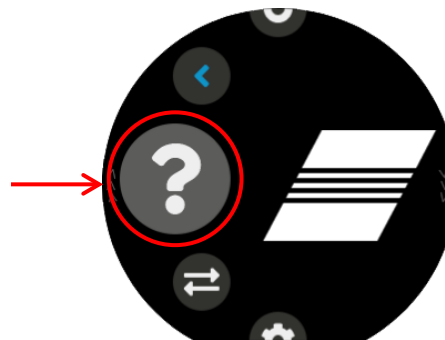

Figure 42: Test Method/Version Information
2. Rotate the Base Unit controller to **Test Method/Version Information** and press to select. See Figure 42.